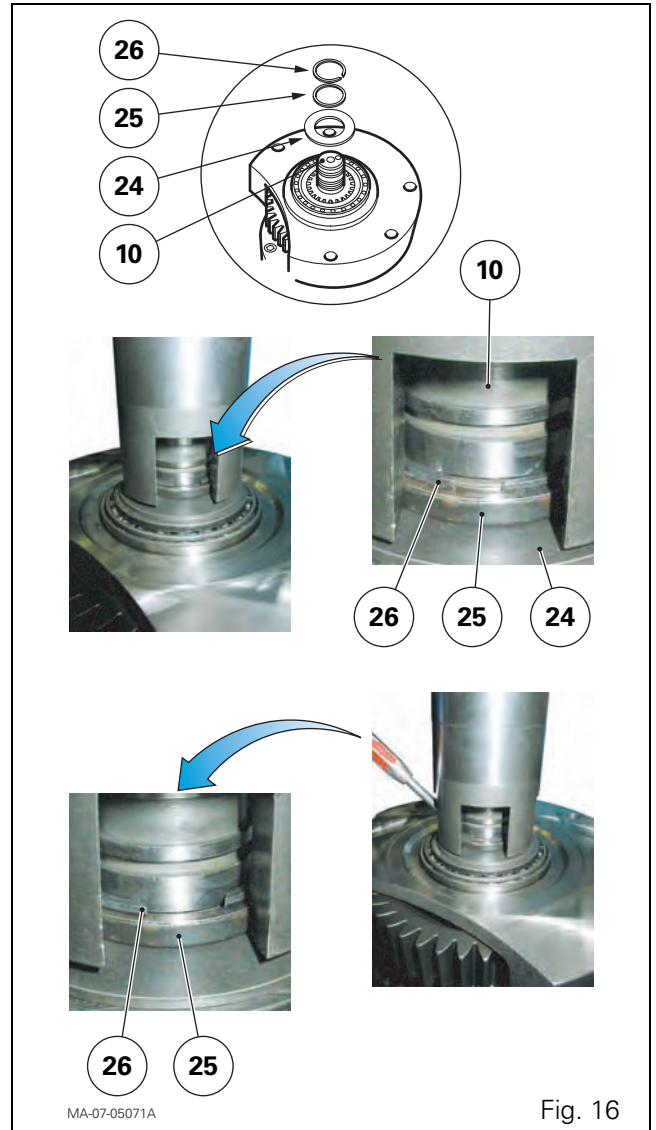

Fig. 16
Assembling the block consisting of the clutch unit (15) and unit/driving pinion(s) (23) assemblies (Fig. 16)